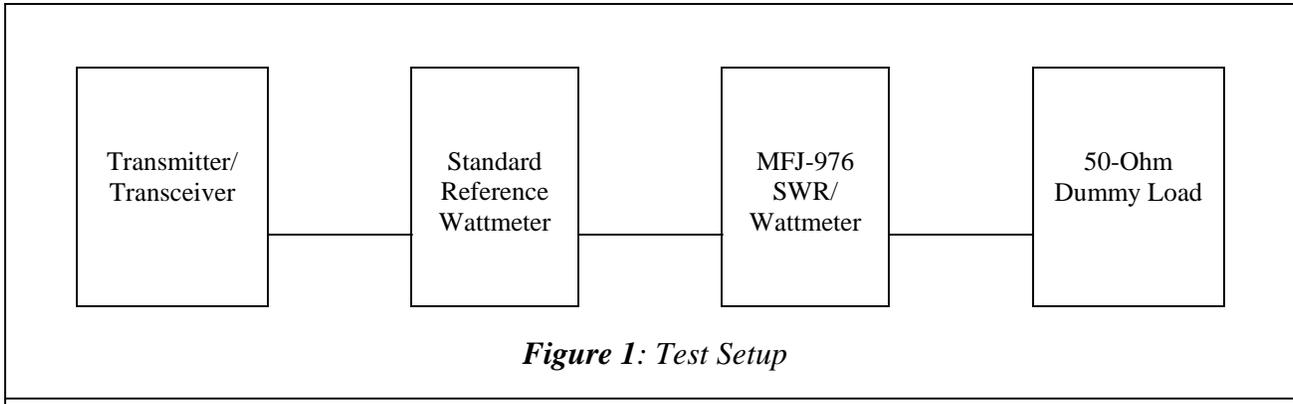
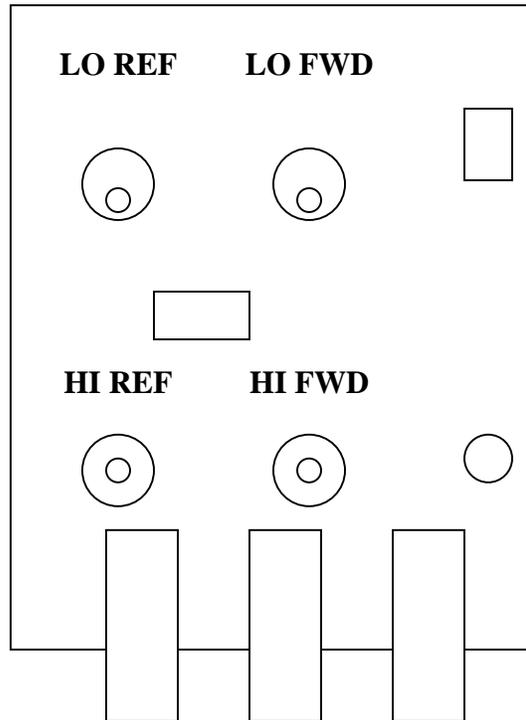

Figure 1: Test Setup
Figure 2: PCB Layout and Trim Pot Location
2. Install the tuner between the transmitter and the antenna. Use a 50-ohm coaxial cable (such as RG-8/U) to connect the transmitter to the connector marked **TRANSMITTER** on the rear of the tuner (see Figure 2).
- A. Balanced feed line** (open wire, twin lead, or twin-axial line) is connected to the **BALANCED LINE** terminals on the left rear panel of the tuner (see Figure 2).
- i. Loosen the wing nuts and remove the jumpers on the right side of the rear panel. Figure 2 shows the location of these jumpers with dashed lines. The jumpers may remain connected to the ground terminal but make certain they cannot make contact with one of the connection terminals on the fiberglass plate. See Figure 2.
- ii. Connect your balanced feedline to the balanced line terminals located on the left side of the rear panel. See Figure 2.
- B. Coaxial (un-balanced) feedlines** connect to the coax connector labeled **ANTENNA**. Antennas connected to the tuner with coax operate as unbalanced antennas. Two jumpers must be installed on the rear panel for operation. These jumpers are installed at the MFJ Factory. Figure 2 indicates the location of these jumpers with dashed lines on the right side of the rear panel.
- C. Random Wire or Single Wire Line** fed antennas must be connected to the top balanced line terminal located on the left of the rear panel as shown in Figure 2.
- i. Connect a random or long wire to the top left terminal shown in figure 2.
1. Refer to *Figure 1* for the Test Setup and refer to the PCB layout in *Figure 2* for trim pot location.
3. Connect the Test Setup equipment as shown in *Figure 1*. Use a 50-ohm dummy load for the antenna. Set the Transmitter to the 14 MHz in the 20-meter band.